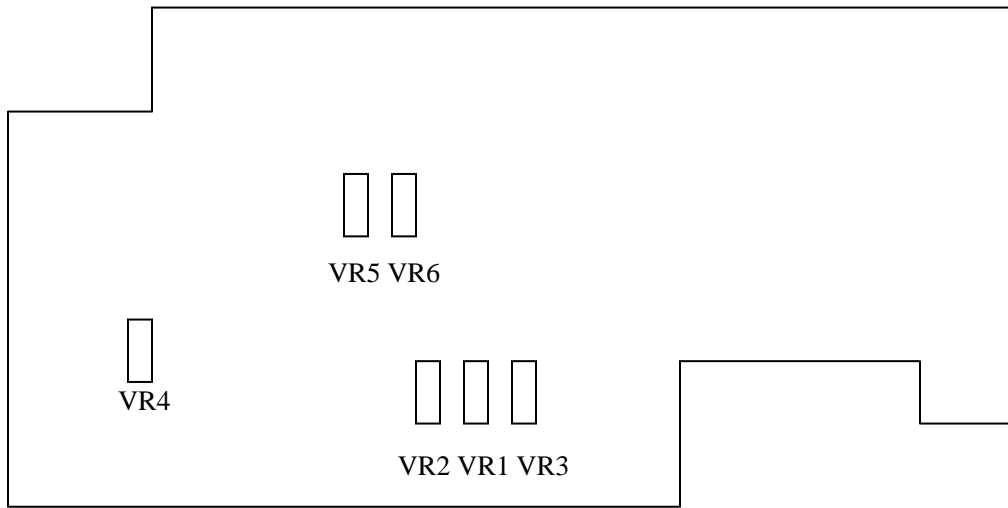

Figure 2.
② The PCB of eload is shown as Figure 2. Set the output of the Fluke 341 to 35V, adjust VR2 on the board until the voltage value displayed on the Eload is $35.00V \pm 0.02\%$
③ Set the output of the Fluke 341 to 3.5V, adjust VR1 on the board until the voltage value displayed